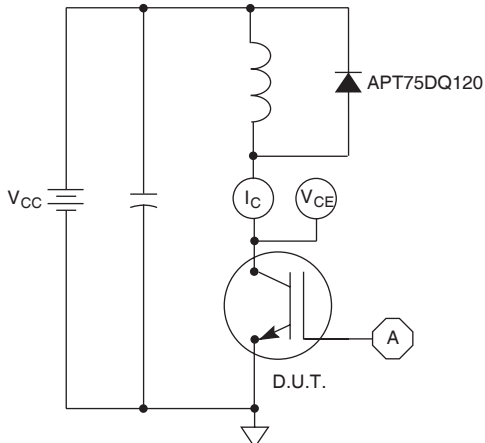

Figure 21, Inductive Switching Test Circuit
① Repetitive Rating: Pulse width limited by maximum junction temperature.
② For Combi devices,  $I_{ces}$  includes both IGBT and FRED leakages
③ See MIL-STD-750 Method 3471.
④  $E_{on1}$  is the clamped inductive turn-on energy of the IGBT only, without the effect of a commutating diode reverse recovery current adding to the IGBT turn-on loss. Tested in inductive switching test circuit shown in figure 21, but with a Silicon Carbide diode.
⑤  $E_{on2}$  is the clamped inductive turn-on energy that includes a commutating diode reverse recovery current in the IGBT turn-on switching loss. (See Figures 21, 22.)
⑥  $E_{off}$  is the clamped inductive turn-off energy measured in accordance with JEDEC standard JESD24-1. (See Figures 21, 23.)
⑦  $R_G$  is external gate resistance, not including  $R_{G(int)}$  nor gate driver impedance. (MIC4452)
⑧ Current limited by lead temperature.